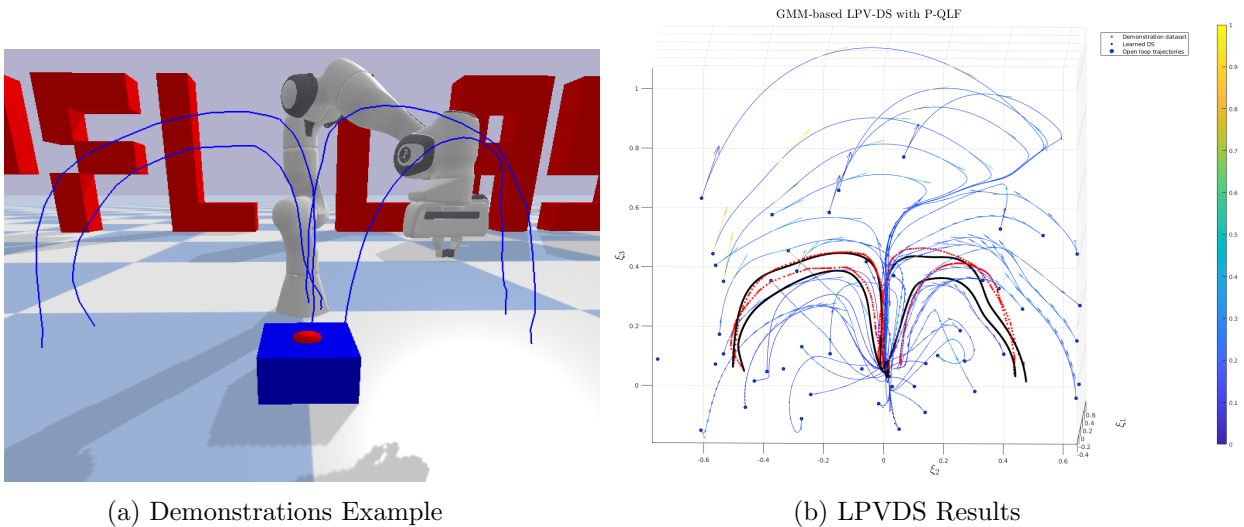

Figure 13: Learning with several trajectories
5. Without deleting your previous dataset, record new trajectories starting from different initial conditions to span the whole workspace (see figure 13). Change the learning algorithm by selecting 'LPVDS' in the MATLAB 'Learning' Interface, then start the learning again. Similarly, you can change the LPVDS parameters in the function learnLPVDS() in the file DS.m.